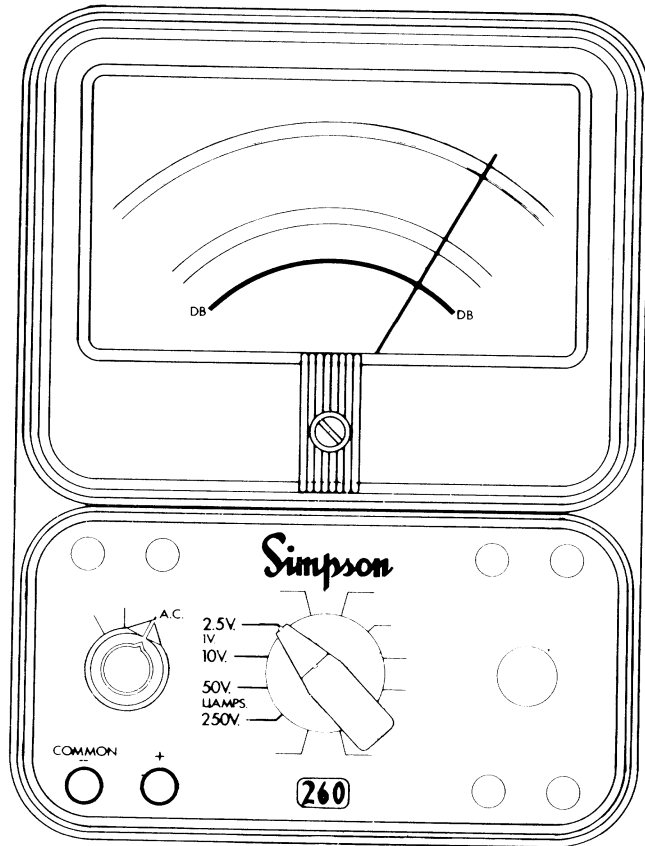

Figure 4-6. Jacks and Switch Positions for Measuring Decibels
- a. For some applications, output voltage and audio frequency voltage are frequently measured in terms of decibels. The decibel scale (dB) at the bottom of the dial is marked from -20 to $+10$ (Figure 4-6).